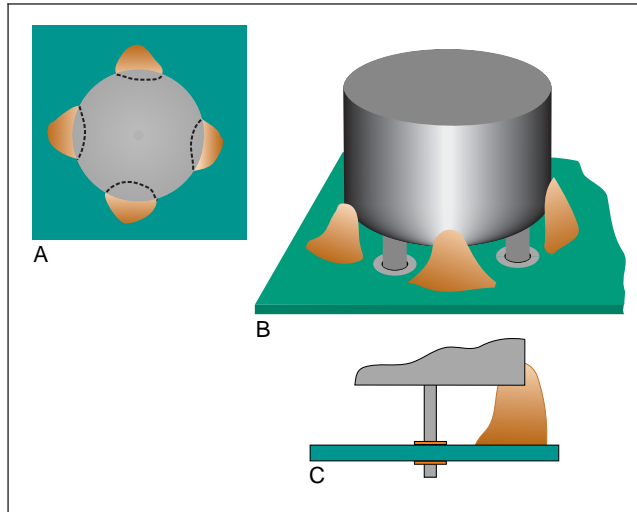

Figure 7-63
- Bonding requirements should be specified in engineering documents, but as a minimum, components are bonded to mounting surface in at least four places evenly spaced around component when no mechanical support is used, see Figure 7-63-A.
- At least 20% of the total periphery of the component is bonded, see Figure 7-63-B.
- Bonding material firmly adheres to both the bottom and sides of the component and to the printed wiring board, see Figure 7-63-C.